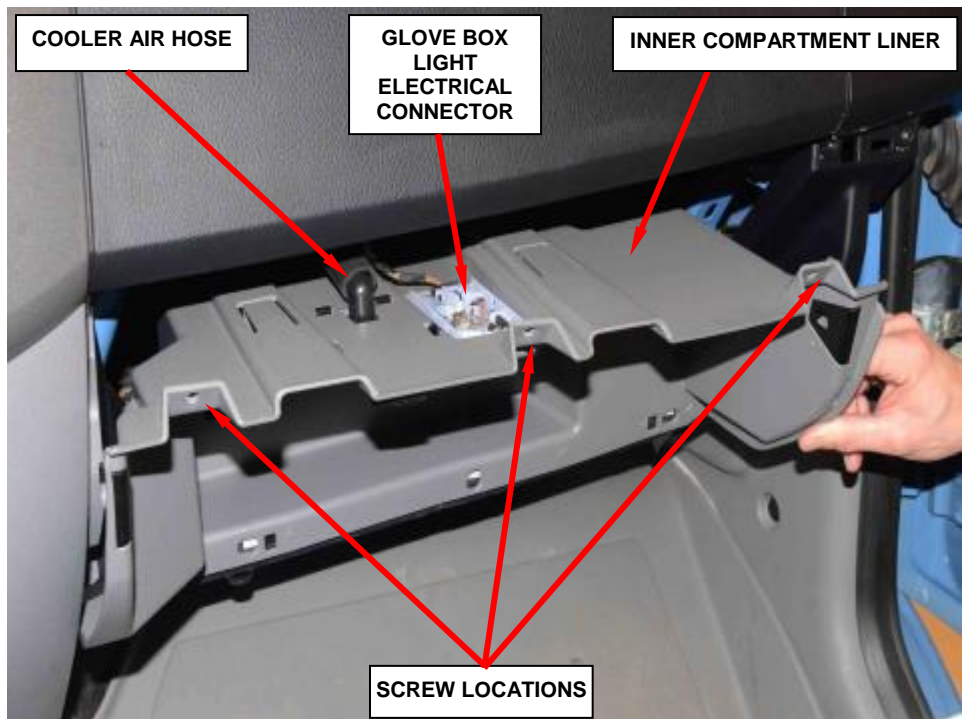

Figure 4 – Inner Compartment Liner
5. Remove and save the three inner compartment liner screws and remove the inner compartment liner (Figure 4).
6. Disconnect the glove box light electrical connector and remove the cooler air hose (Figure 4).
38. Install the cooler air hose to the inner glove box liner and connect the glove box light electrical connector (Figure 4).
39. Install the inner glove box liner and install the three screws. Tighten the screws securely (Figure 4).